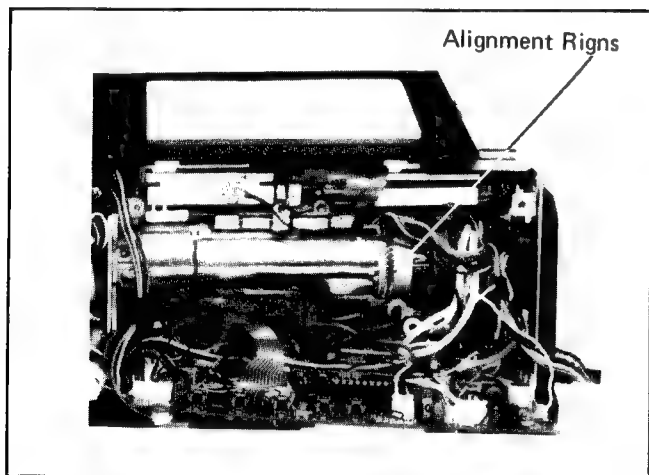
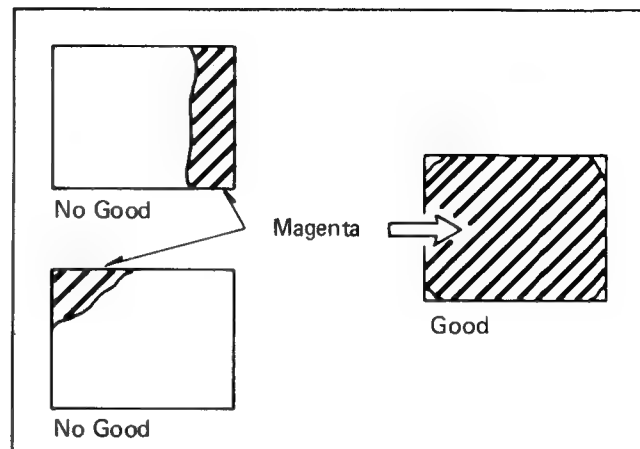

Fig. 27
Fig. 28 TV Screen
- Observe the raster on the TV monitor, and adjust the two alignment rings (See Fig. 27.) so that the signal level is minimized and the magenta color covers the whole screen as shown in Fig. 28.